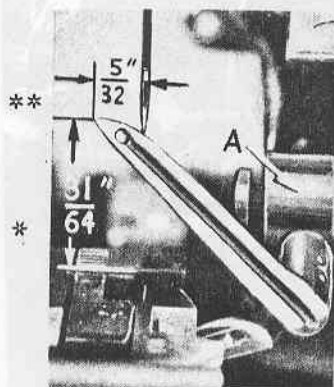

Fig. 10
Next turn handwheel until looper is at the left end of its travel; check dimensions of upper looper point with respect to needle and throat plate (Fig. 10). If resetting is necessary, do it by moving the upper looper holder (A, Fig. 10). Figure 10 represents the dimensional setting for Styles 39500 A and B.
If it becomes necessary to move looper thread pull-off (T) be sure to take up all end play in needle drive shaft before tightening. If upper looper is located so that it is higher over throat plate than recommended in (Fig. 10), the purl will tend to form near top edge. If upper looper is too low, the purl will form nearer bottom edge.